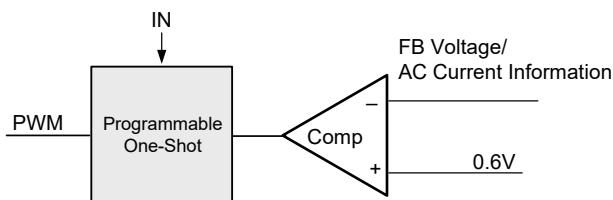

Figure 3. Simplified Control Schematic of AOZ2261NQi-11
The simplified control schematic is shown in Figure. 3. The high-side switch on-time is determined solely by a one-shot whose pulse width can be programmed by one external resistor and is inversely proportional to input voltage (IN). The one-shot is triggered when the internal 0.6V is higher than the combined information of FB voltage and the AC current information of inductor, which is processed and obtained through the sensed lower-side MOSFET current once it turns-on. The added AC current information can help the stability of constant-on time control even with pure ceramic output capacitors, which have very low ESR. The AC current information has no DC offset, which does not cause offset with output load change, which is fundamentally different from other V² constant-on time control schemes.